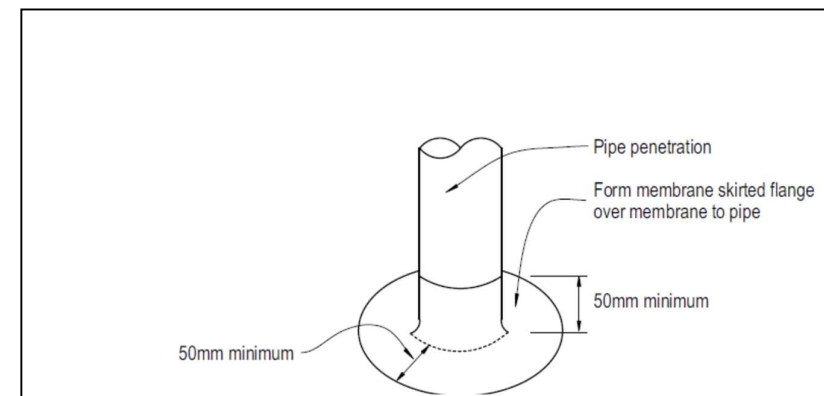

Figure 28: Pipe penetrations
- ✓ Figure 28: Pipe penetrations